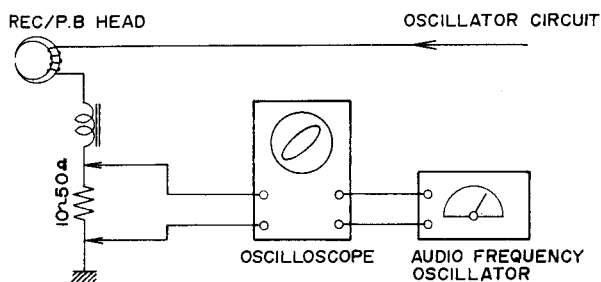

Fig. 1
1. ADJUSTMENT OF RECORDING BIAS FREQUENCY (Fig. 1)